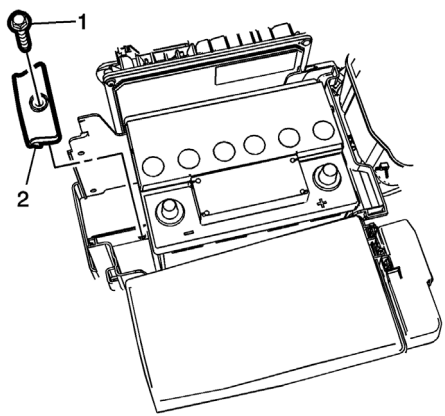

Fig. 5 Battery retainer removal
9. Remove battery retainer bolt (1) and retainer (2), **Fig. 5**.
2. Install battery retainer (2) and torque bolt (1) to 88 inch lbs., **Fig. 5**.